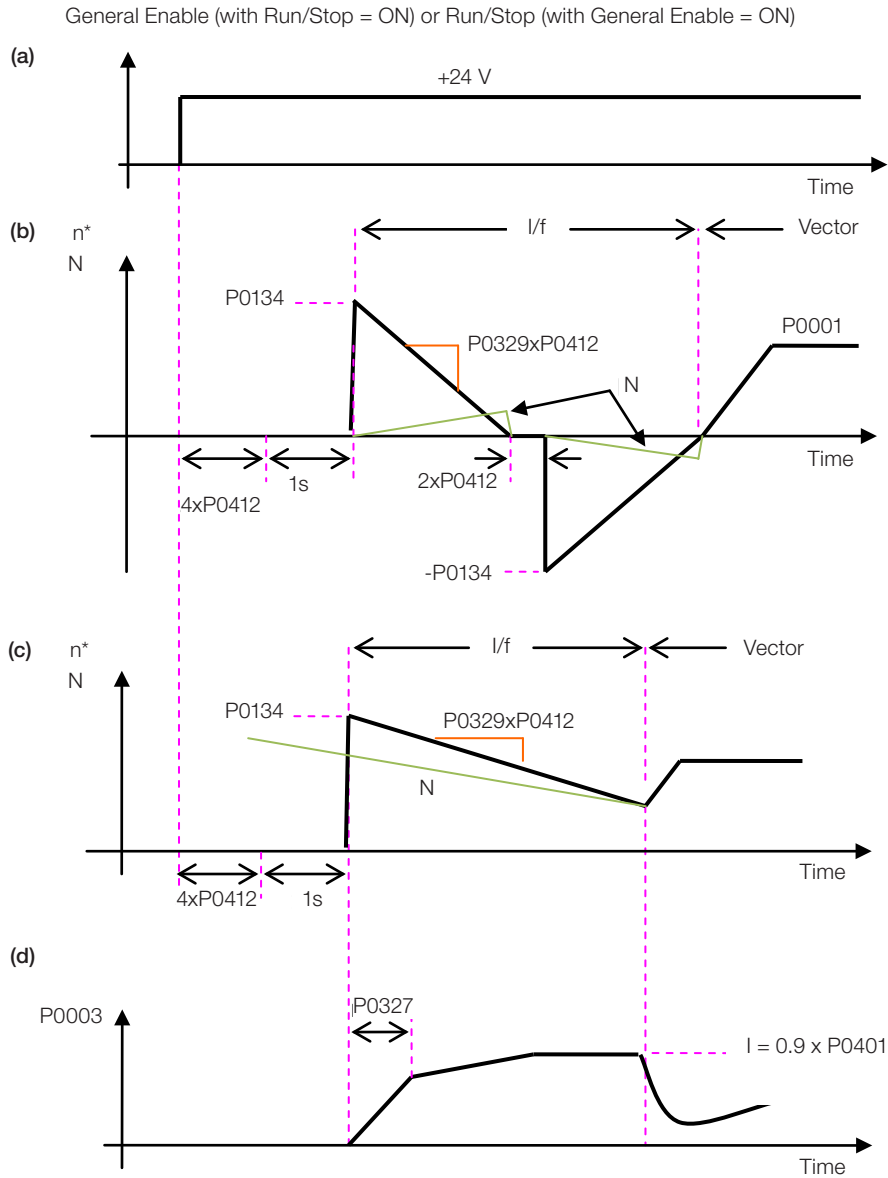

Figure 12.3: (a) to (d) Influence of P0327 and P0329 during Flying Start (P0202 = 4)
The behavior of the Flying Start function (FS) in the sensorless mode during acceleration and reacceleration can be understood from the Figure 12.3 on page 12-8.
The Figure 12.3 on page 12-8 shows the behavior of the speed reference when the FS function is started with stopped motor shaft and small P0329 value (not optimized).
The Figure 12.3 on page 12-8 shows the speed reference when the FS function is initiated with the motor shaft already running in the desired direction, or with stopped shaft and an already optimized P0329.